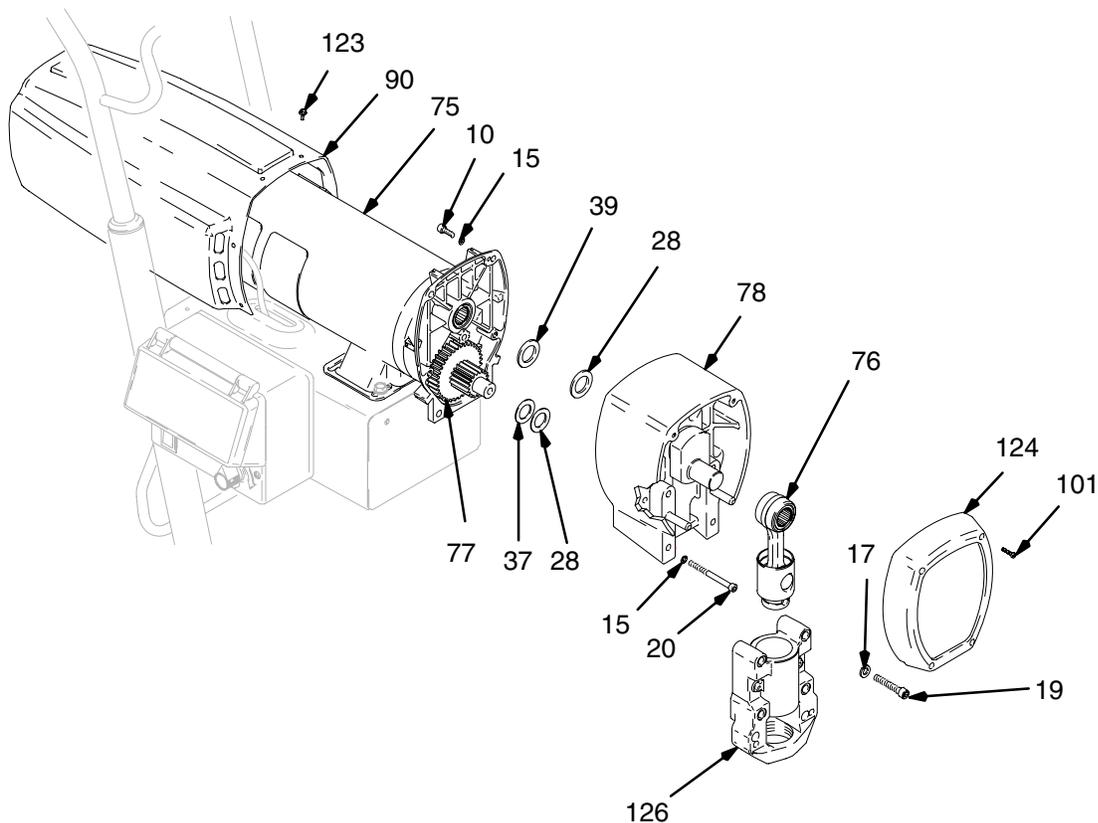

Fig. 7
- Remove pump (79); **Displacement Pump Replacement**, page 21.
- Fig. 7. Remove six screws (123) and remove motor shield (90).
- Remove four screws (10) and washers (15).
- Remove four screws (101) and front cover (124).
- Remove four screws (19) and washers (17) and bearing housing (126) from drive housing (78).
- Remove two screws (20) and washers (15) and pull drive housing (78) off of motor (75).
- Fig. 7. Apply grease liberally to washers (28, 37, 39, 40), all gears and inside drive housing (78).
- Push drive housing (78) onto motor (75) and install with two washers (15) and screws (20).
- Install bearing housing (126) on drive housing (78) with four screws (19) and washers (17).
- Install front cover (124) and four screws (101).
- Install washers (15) and four screws (10).
- Install motor shield (90) with six screws (123).
- Install pump (79); **Displacement Pump Replacement**, page 21.